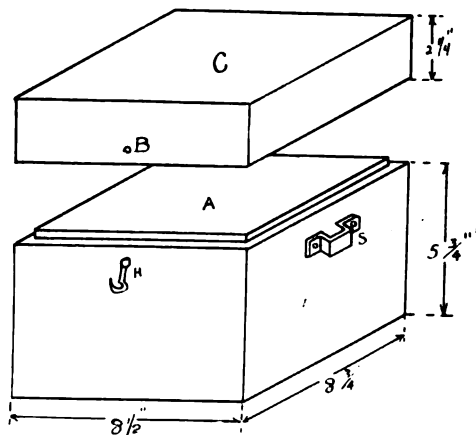
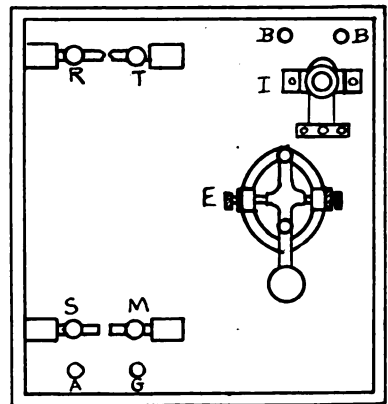
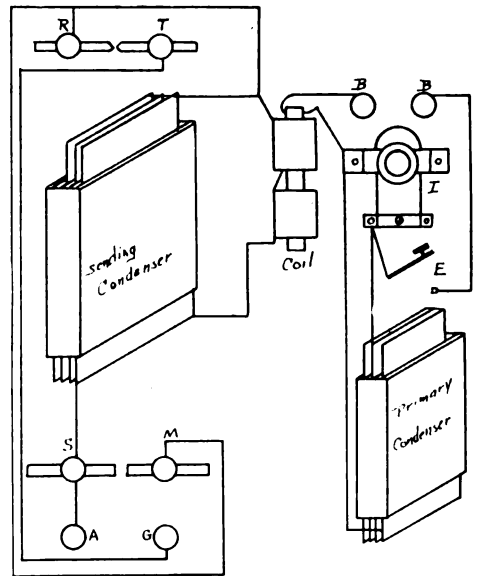

Fig. 57.—Carrying case
Fig. 59.—Case with instruments in place
Fig. 64.—Wiring diagram
In Fig. 57 are shown the dimensions of the portable carrying case of the set. It is made of wood $\frac{1}{4}$ inch thick and consists of a body and a cover. The cover is secured to the body by means of two hooks (H) and screws (B). The instrument case (A) is $\frac{1}{2}$ inch thick and fits inside the body of the case so that $\frac{1}{4}$ inch
Fig. 59 illustrates a top view of the instrument base (A) shown in Fig. 57, with the exposed parts of the set in place. The telegraph or small wireless key (E) should be purchased, as a good one cannot be made easily. The interrupter of the coil (I) is mounted back of the key and the end of the core of the spark coil passes through the instrument base, projecting $\frac{1}{8}$ inch above its surface directly beneath the disk on the vibrator spring. Binding posts (B) (B) are the battery connections for operating the coil. Binding posts (A) and (G) connect to the aerial and ground respectively, and wires for the receiving set are taken from binding posts (R) and (T).
The diagram, Fig. 64, shows the best method of wiring the instruments. In this diagram the letters refer to the same instruments and parts as in Fig. 59. The aerial and ground are to be connected to this set at the binding posts (A) and (G) respectively, and the aerial and ground connections for the receiving set lead from binding posts (R) and (T) respectively. The battery of five dry cells or three cells of storage battery is connected to posts (B) (B).